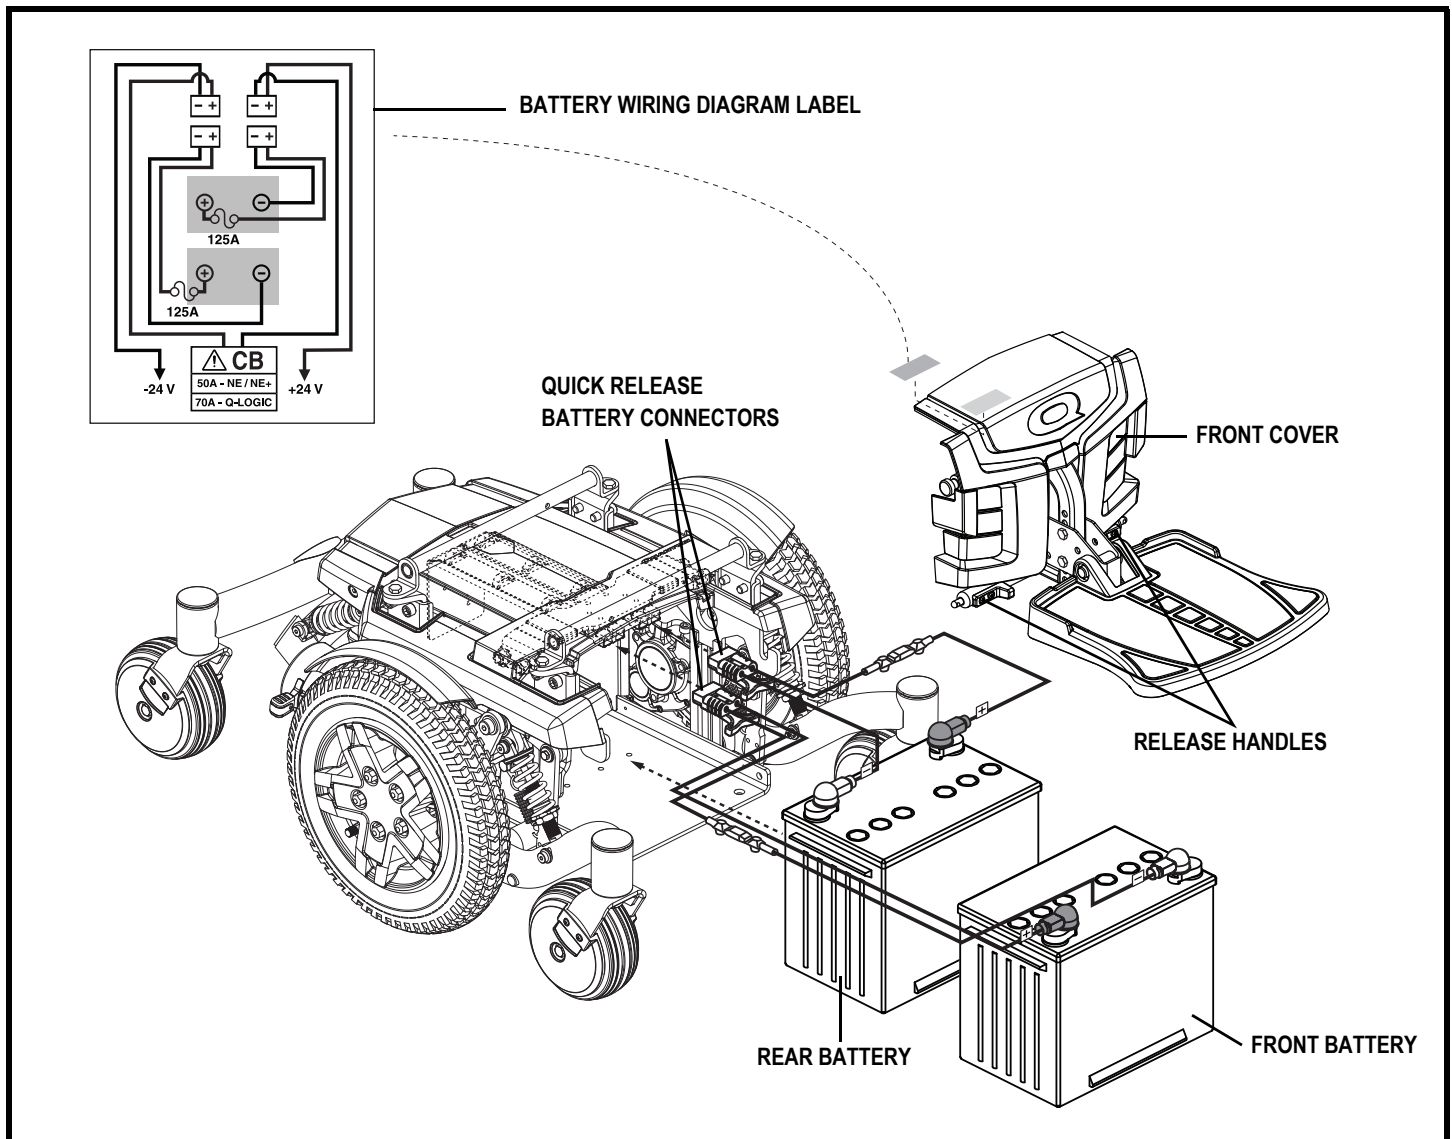

Figure 21. Battery Installation
3. Remove the front cover by squeezing the release handles (see figure 21) and lifting the foot platform bracket up and away from the power base.
7. Connect the battery harness to the new front battery according to the battery wiring diagram. See figure 21.
8. Connect the battery harness to the new rear battery according to the battery wiring diagram. See figure 21.